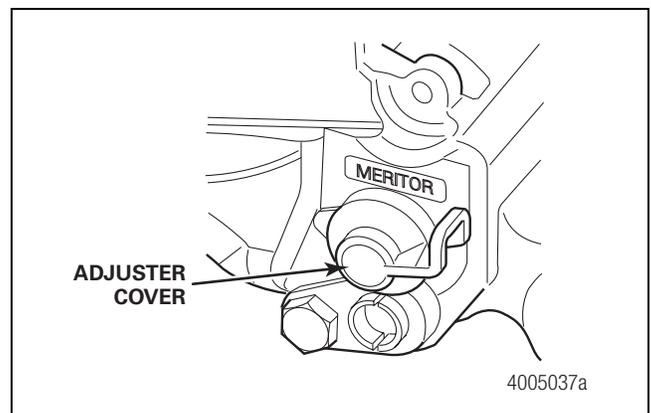

Figure 5.6
1. Remove the adjuster cover from the caliper assembly. Figure 5.6.